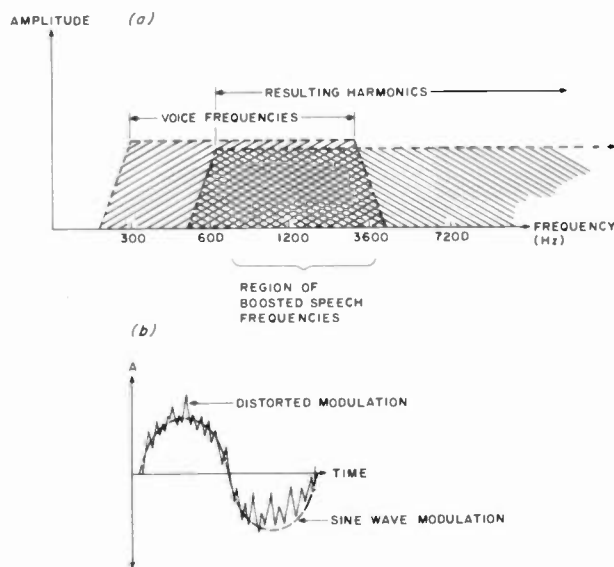

Fig. 8. Resultant waveform distortion.
As a result, the detector's audio output may contain, along with the desired signal, large amounts of odd-order harmonic distortion, to the extent of completely obliterating the desired signal—i.e., 100% distortion. The spectrum of this harmonic distortion extends through and beyond the audio range, into the supersonic region. Fig. 8 illustrates this result.
2) Use sufficient pre-emphasis in the speech amplifier—about 6 dB per octave—to suppress the lows and boost the highs. This ensures that the harmonic distortion arising from the lower frequencies will be masked and covered by the boosted higher frequency speech energy. For example, the odd-order harmonics of 500-Hz energy would lie at 1.5 and 2.5 kHz, which would be masked by the boosted part of the speech range (see Fig. 8).